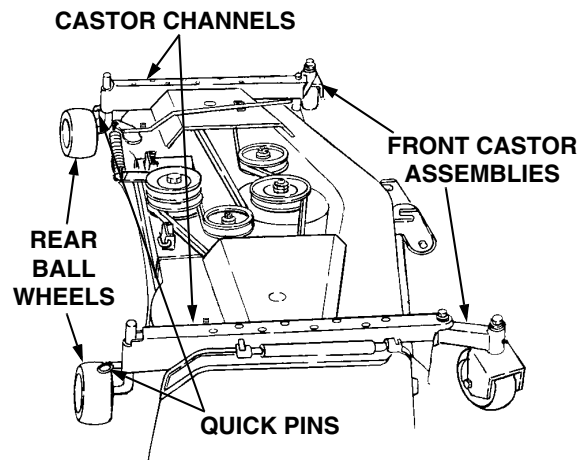

Figure 40
2. To ease sliding the deck out from under the tractor, reposition all four ball wheels as shown in Figure 40. To reposition the rear wheels; remove the quick pins, rotate the rear wheels 90°, and raise them to their uppermost position in the castor channels. Install the two quick pins in the rear holes of the castor channels to secure the rear wheels in this position. Temporarily remove the quick pins and rotate the front castor assemblies outward.